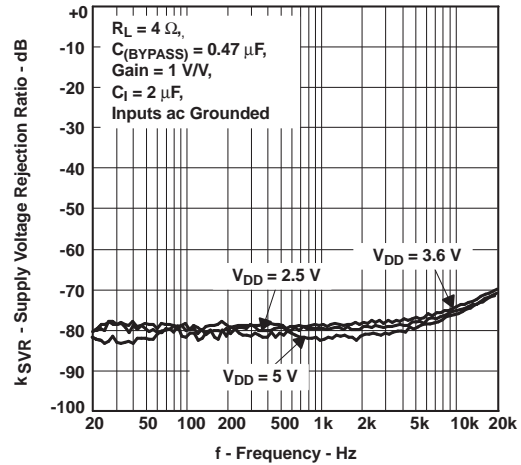
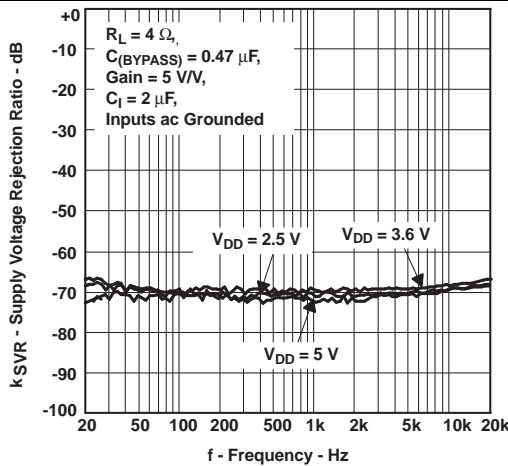
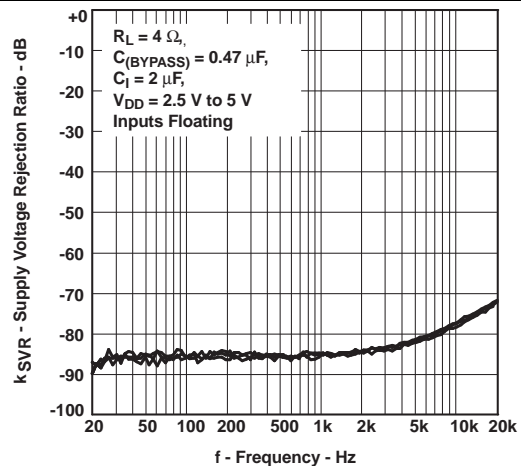
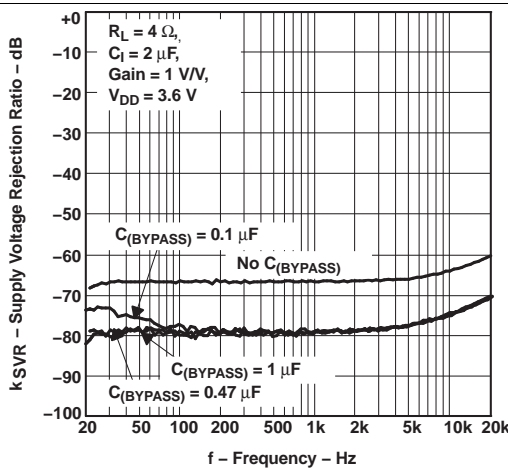

Figure 14. Supply Voltage Rejection Ratio vs Frequency
Figure 15. Supply Voltage Rejection Ratio vs Frequency
Figure 16. Supply Voltage Rejection Ratio vs Frequency
Figure 17. Supply Voltage Rejection Ratio vs Frequency
| K_{SVR} | Supply voltage rejection ratio | vs Frequency | Figure 14 , Figure 15 , Figure 16 , Figure 17 |
- **Mid-supply bypass capacitor, $C_{(BYPASS)}$, not required:** The fully differential amplifier does not require a bypass capacitor. Any shift in the mid-supply voltage affects both positive and negative channels equally, thus canceling at the differential output. Removing the bypass capacitor slightly worsens power supply rejection ratio (k_{SVR}), but a slight decrease of k_{SVR} may be acceptable when an additional component can be eliminated (See Figure 17).